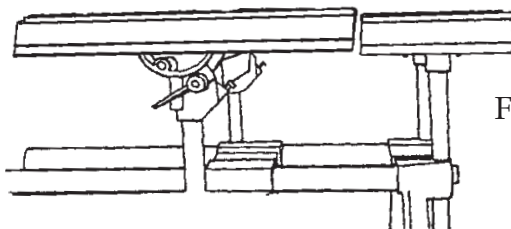

Figure B-100
62. The worktable should already be mounted in the carriage mount. Move the worktable next to the extension table and adjust it to about 1/4" above the extension table, as seen in Figure B-100.